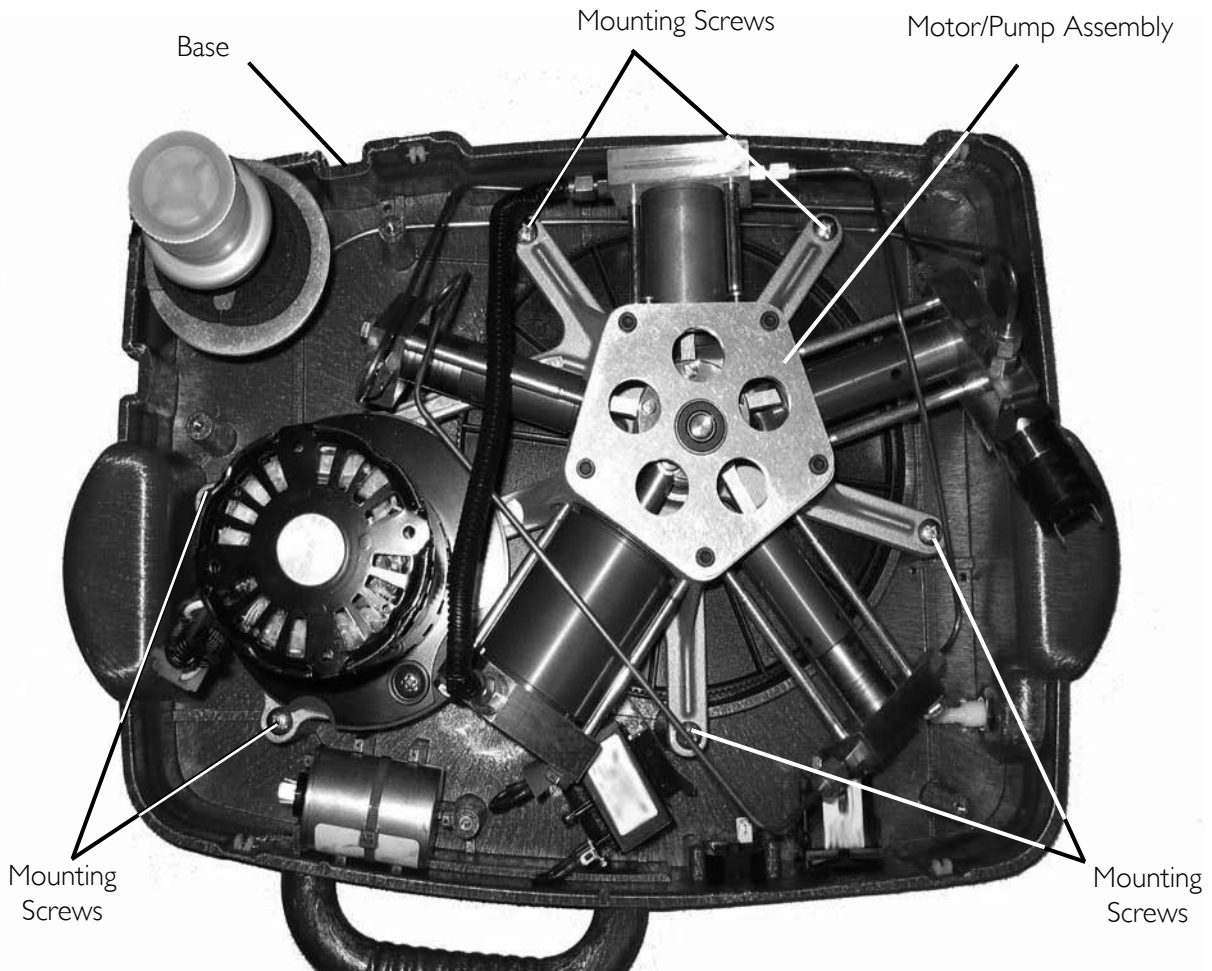

FIGURE 11.5 Timing Belt Replacement
23. Remove the six mounting screws that secure the pump/motor assembly to the base (FIGURE 11.5).
3. Position the motor/pump assembly on the base (FIGURE 11.5).
4. Secure the pump/motor assembly to the base with six mounting screws. Torque mounting screws to 25-30 in-lbs (2.82-3.39 Nm) (FIGURE 11.5).